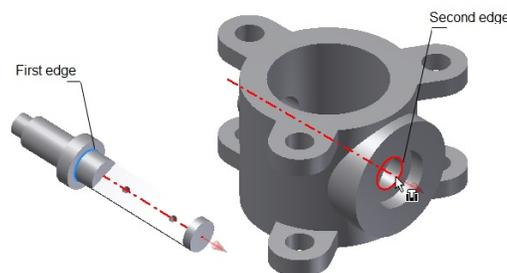

Figure 9-65 Selecting the edges to apply the **Insert** constraint in Figure 9-65.
4. Select the inner edge of the counterbore hole as the second edge, refer to Figure 9-65. As soon as you select the second edge for applying the constraint, the preview of the Shaft assembled with the Body is displayed. This is because the **Show Preview** check box is selected by default in the **Place Constraint** dialog box.